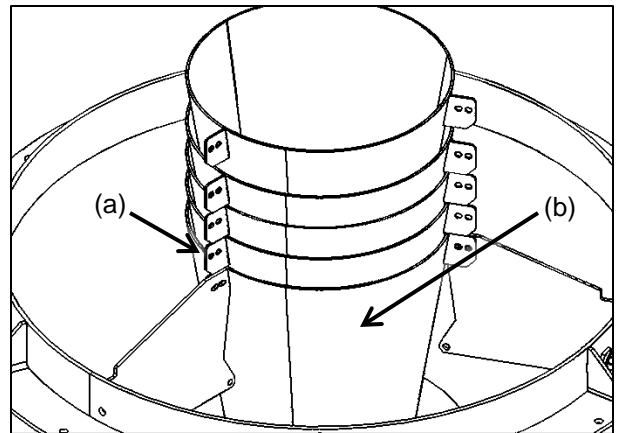

Figure 1: Cone Assembly Placement
8. Place the cone assembly in the discharge cone as shown in **Figure 1**, aligning the cone support tabs with tabs on discharge cone. Attach the cone support cables to the discharge cone.